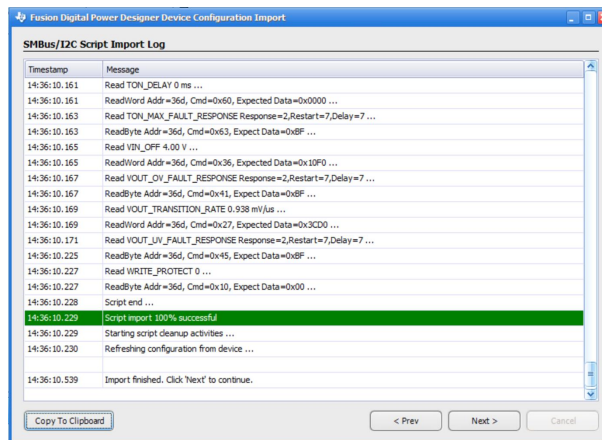

Figure 20. SMBus/I2C Script Import Log
4. The Fusion GUI then begins to import the script. After the import is completed, the text **Script import 100% successful** appears and is highlighted in green (as shown in Figure 20)